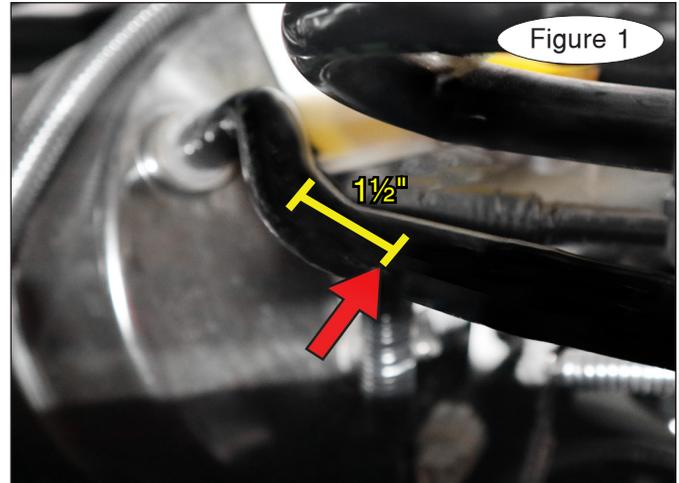

Figure 1
1. Begin the installation by locating the plastic brake booster hose and use an appropriate tool to cut it approximately 1 1/2" forward of the bend (Fig.1).